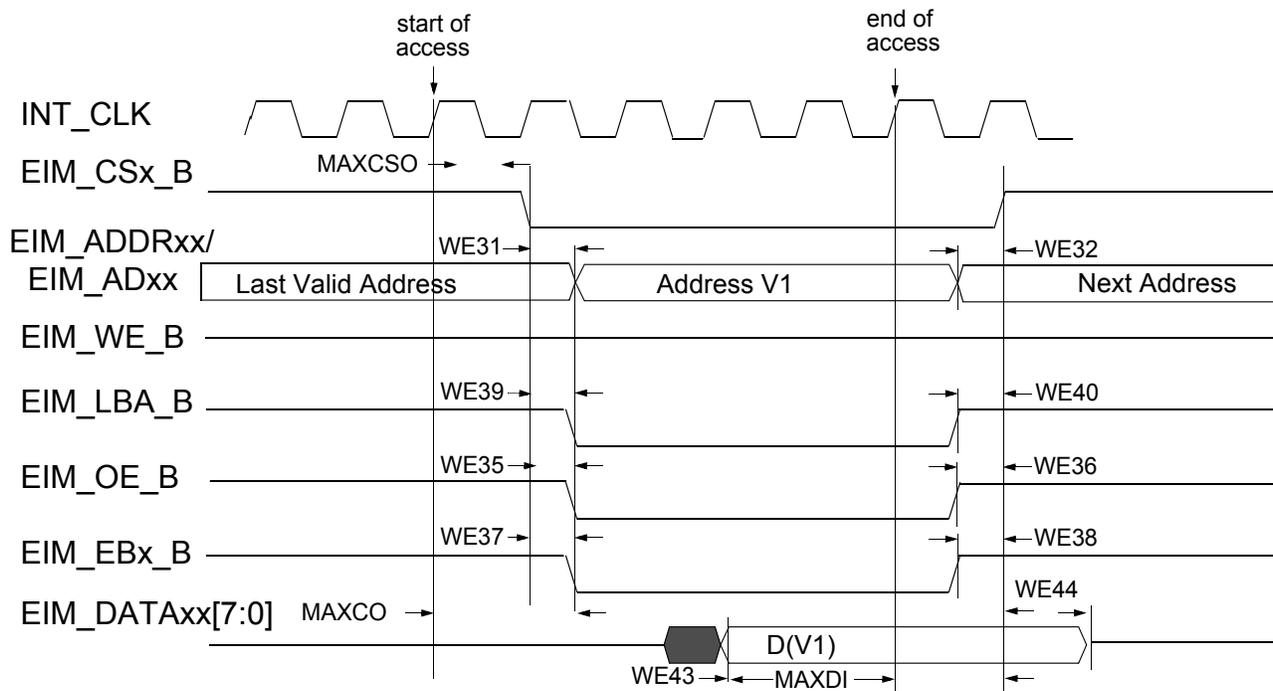
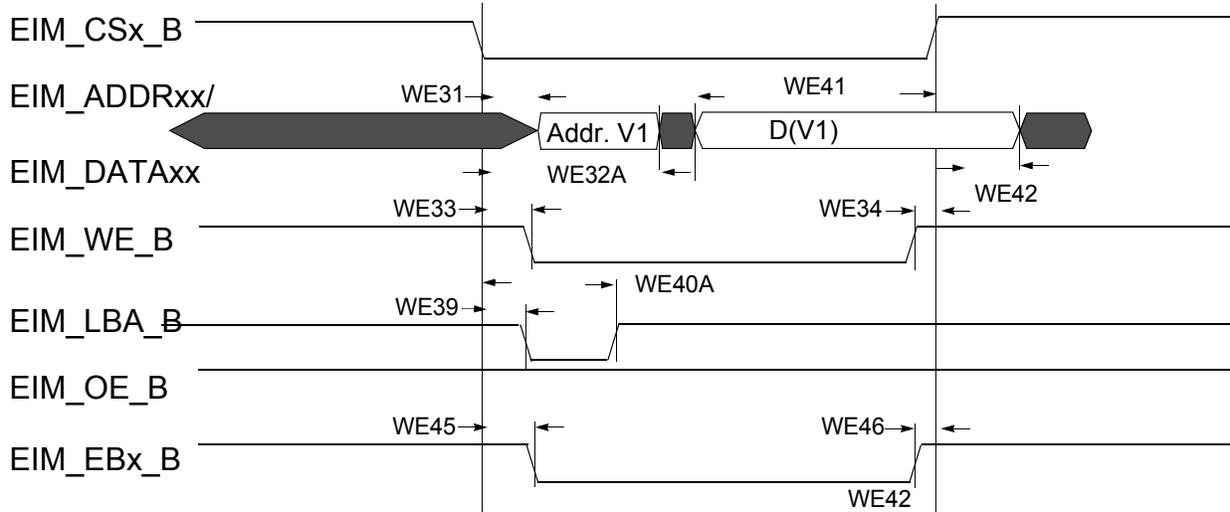
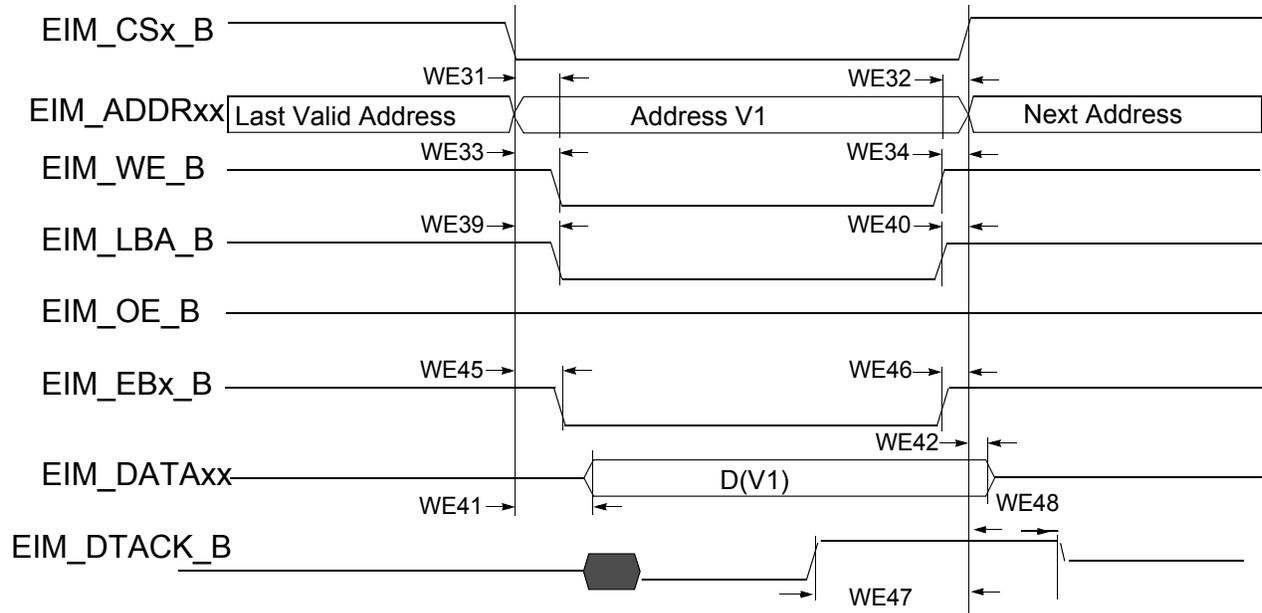

Figure 16. Asynchronous Memory Read Access (RWSC = 5)
Figure 19. Asynchronous A/D Muxed Write Access
Figure 21. DTACK Mode Write Access (DAP=0)
Figure 16 through Figure 21, and Table 45 help you determine timing parameters relative to the chip select (CS) state for asynchronous and DTACK EIM accesses with corresponding EIM bit fields and the timing parameters mentioned above.
Asynchronous read & write access length in cycles may vary from what is shown in Figure 16 through Figure 19 as RWSC, OEN and CSN is configured differently. See the *ii.MX 6SoloX Applications Processor Reference Manual (IMX6SXR)* for the EIM programming model.